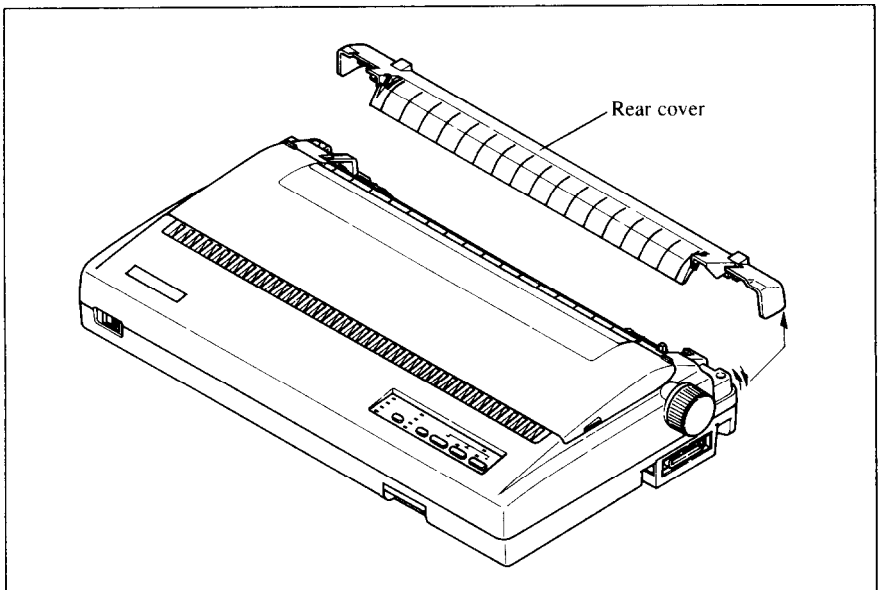

Figure 1-12. Opening the rear cover
5. Remove the rear cover. Grip it by its rear edge and lift upwards and backwards as in Figure 1-12.